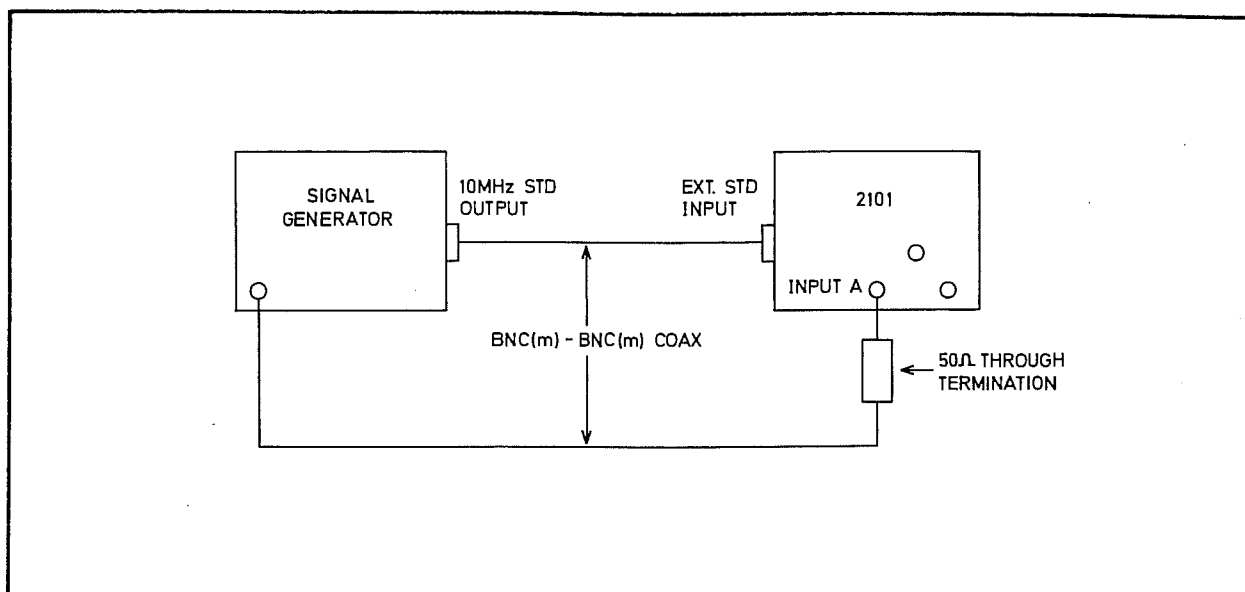

Fig. 7.19 Connection for AF Sensitivity PVP (Method 1)
(1) Connect the equipment as shown in Fig. 7.19. Check that the EXT STD indicator is lit.
(2) On the 2101 select SF11 to enable the 50 kHz filter and set a 0.5 second gap between measurements by pressing: